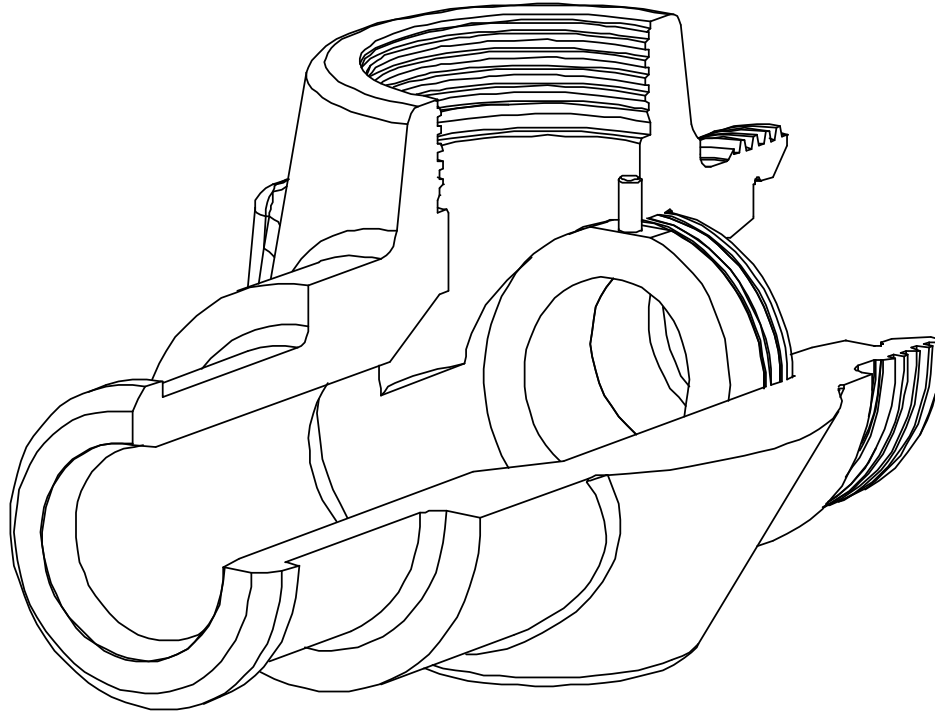

Figure 1: Alignment Pin and Seat Adjusted to Vertical
2. Place the alignment pin (6) into the hole in the top of the seat. Lubricate the exposed portion of the alignment pin. See Figure 1 for final alignment pin location.